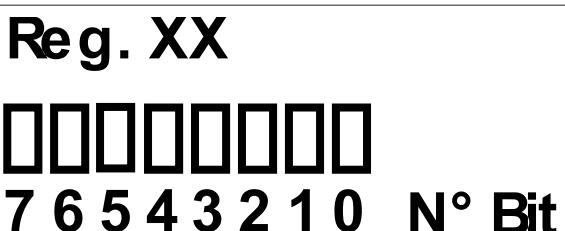

Fig. 7
- Type in the decimal value or, if modifying a single bit, press to select the modification of the binary value and or to select the bit, as shown in fig. 7, and modify the value. Character X indicates the bits whose value depends on other settings and which must not be modified.